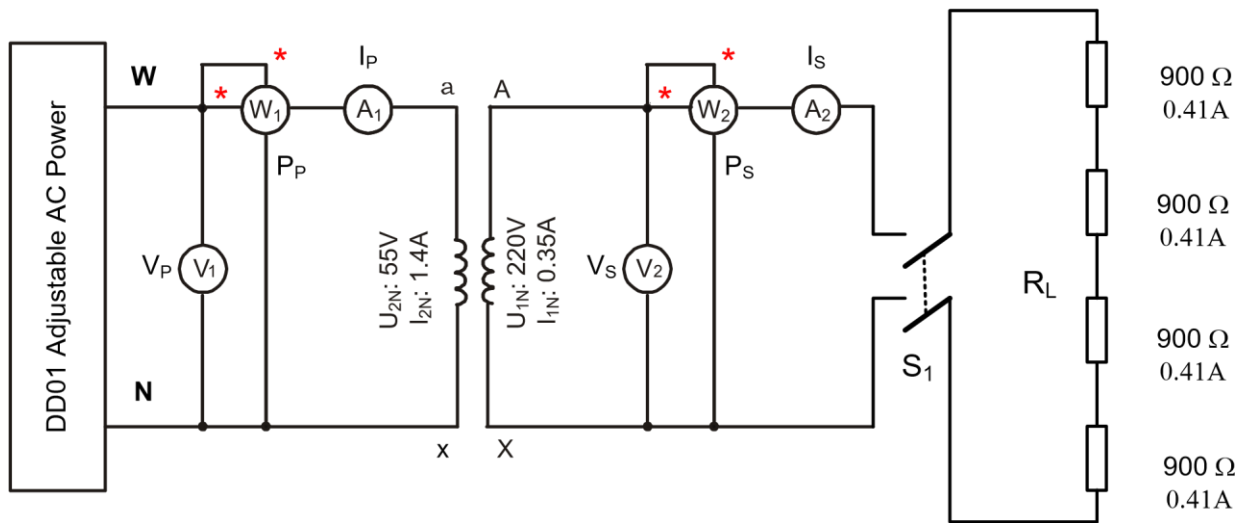

Figure 8: Transformer Regulation & Efficiency Tests
The aims of the following series of tests is to measure performance at four different resistive load points, and from the results calculate the Voltage Regulation and Efficiency at each point. The experimental set up is shown on Figure 8. The general idea is to measure input and output voltages, currents and powers over the load range for a constant input voltage (V_P).
2. Connect the resistors to the Secondary winding as shown on Figure 8. Adjust the value of the series four resistor R_L to its maximum value (about 3600Ω)